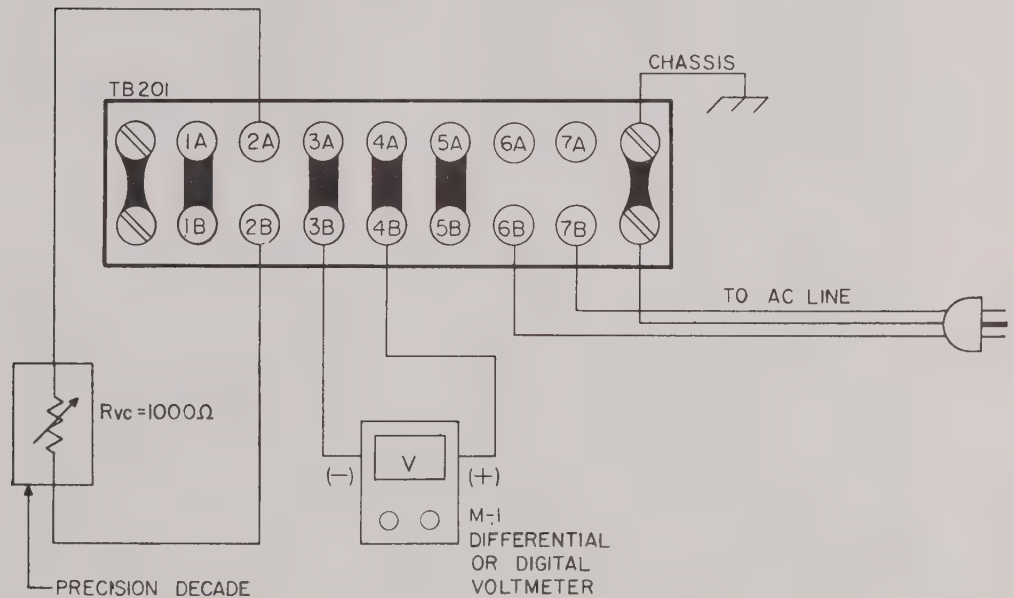

FIG. 3-4 ADJUSTMENT FOR EXACT PROGRAMMING RATIO
- b) Connect calibrating set-up as shown in FIG. 3-4 and set precision decade to 1000 ohms. (or use single, 1000 Ω precision resistor).